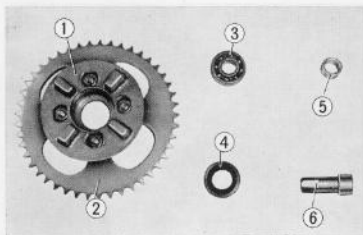

Fig. 4.97 Component parts of final driven flange
- ① Rim band
- ② Rear wheel rim
10. Remove the rear axle sleeve collar from the final driven flange, oil seal (oil seal No. 23406 used on frame Nos. S90-111565~S90-142498 and S90-424487~S90-493162 and subsequent, and oil seal No. 27406 used on frame No. S90-493162, frame No. S90-542753 A and subsequent.), ball bearing 6203 Z. (Fig. 4.97)